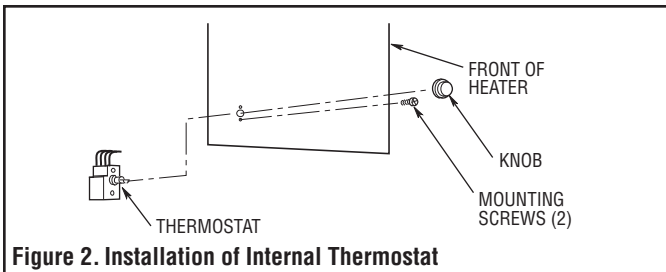

Figure 2. Installation of Internal Thermostat
4. Install thermostat as shown in Figure 2, coiling any excess capillary tubing inside the heater.
6. Install heat recovery thermostat as shown in Figure 2, coiling any excess capillary tubing inside the heater.